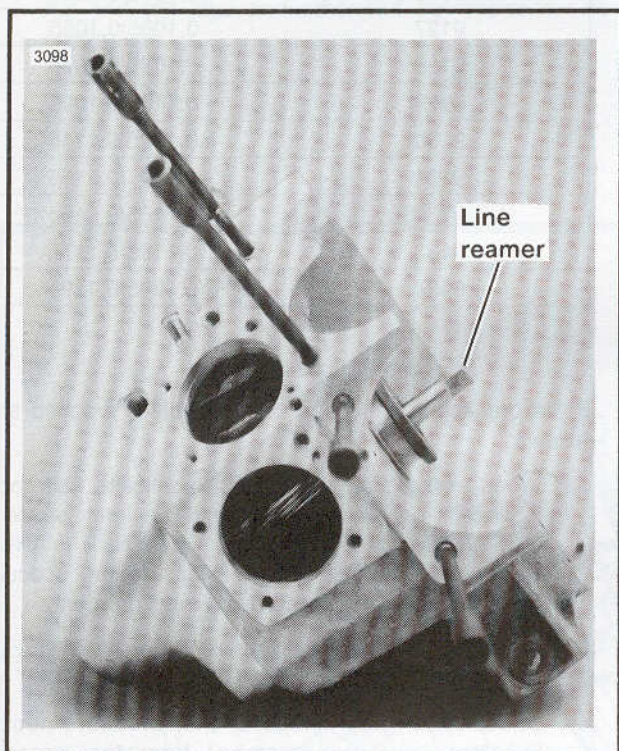

Figure 3-48. Line Reamer in Cover Bushing
3. See Figure 3-48. Center punch and drill No. 31 hole exactly 0.281 in. deep. Drive in new dowel pin and peen bushing edges over dowel to secure it. Pin must be no more than 0.020 in. below the bushing surface.